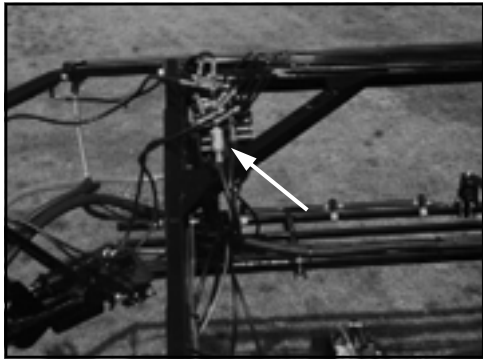
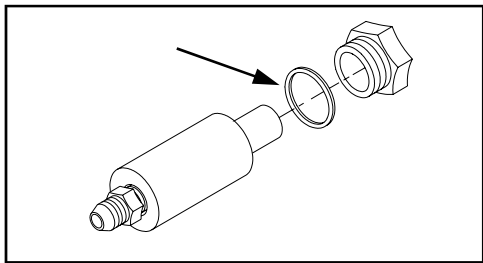

FIG 8.18
FIG 8.19
**STACK VALVES** - The valves on the boom control stack valve are protected by a 90 Micron in-line sintered bronze filter (fig. 8.18). When the filter element is removed for cleaning, caution should be taken so the gasket is in the proper place when re-installing (fig. 8.19). Also, re-install filter paying attention to direction of flow so the end marked "OUT" is oriented correctly.